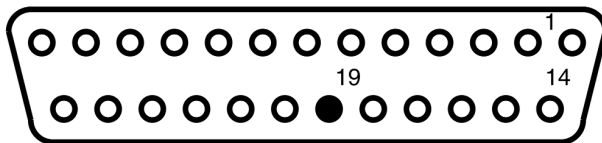

Figure 2-20 Looking for pin 19
- Check pin 19 on your parallel port cable to make sure it's grounded. It's possible that the parallel port (typically on your laptop) is not grounded. It may be another level as a result of some test circuitry on your computer. Place the DVM's negative (black) lead on the metal case of the parallel connector. Place a thin wire (in a pinch a metal paperclip works) into the hole for pin 19 (see Figure 2-20). It should read 0V. If it reads 5V or near that value, you have a nonstandard connector. Check pins 18 and 20. If they are 0V (grounded), then you can modify your programming cable by moving the wire in the DB25 connector housing to either pin 20 or pin 18. Refer to Figure 1-1 to see how this cable is wired.